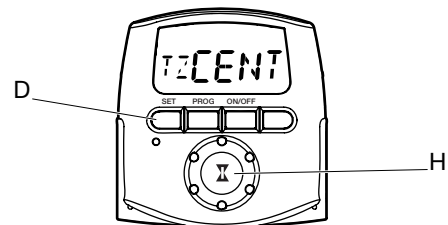

FIG 5. Setting the Time Zone
8. Turn the selector knob (H) to select the time zone you are in. Press **SET** (D). See FIG. 5.